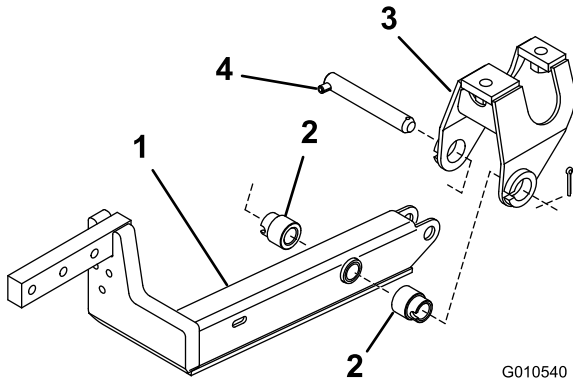

Figure 2
4. Mount a lift arm to the pivot bracket with 2 spacers, a pivot pin, and a cotter pin (5/32 x 1-3/4 inches). Mount the lift arm with the bend positioned outward (Figure 2).